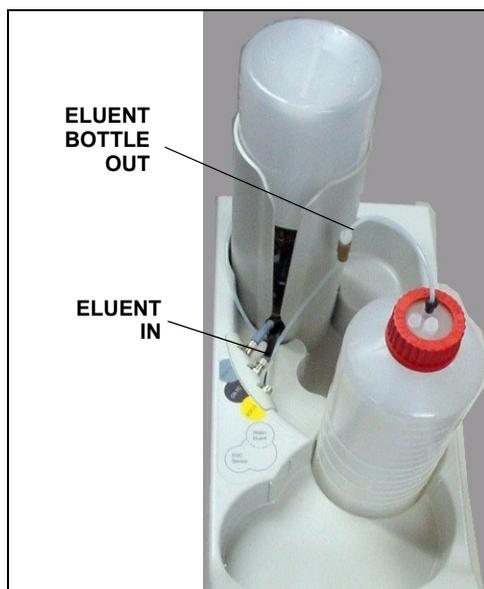

Figure 3-10. Reservoir Connections
If it is not already connected, connect the **ELUENT BOTTLE OUT** line from the reservoir cap to the **ELUENT IN** line, which extends from the plumbing and cable chase on the top of the ICS-2000 (see Figure 3-10).
1. Make sure the reservoir is filled and the tubing connecting the reservoir to the ICS-2000 tubing is securely connected (see Figure 3-10).